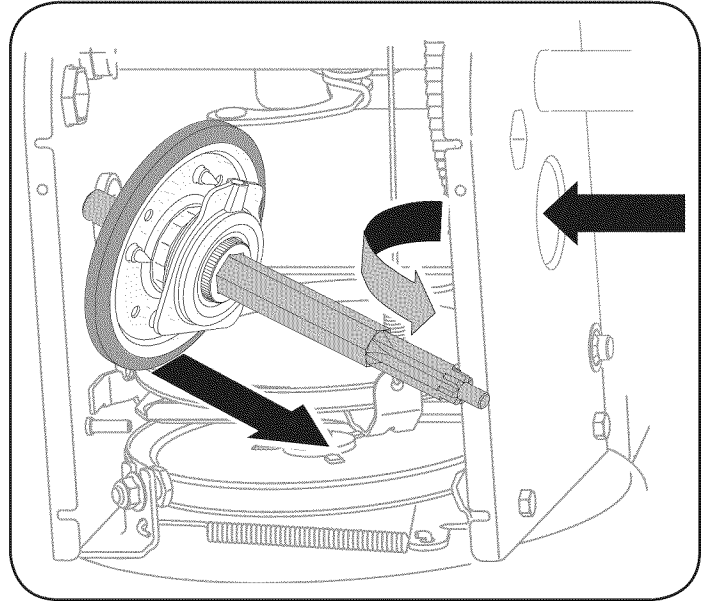

Figure 33
7. Carefully position the hex shaft downward and to the left before carefully sliding the friction wheel assembly off the shaft. See Figure 33.